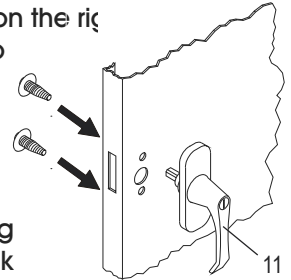

Figure 10
- Place the locking handle (11) on the right hand door and fasten with two #8-32 x 1/4 slotted hex-head bolts and lockwashers. (See Figure 10)